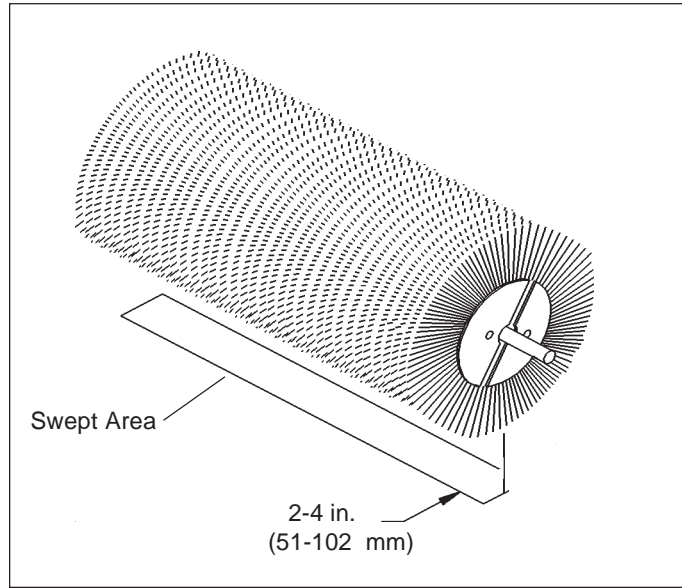

Figure 22
4. Raise the sweeper and back away; switch off the engine and remove the key. The brush pattern left in the dust should be 2-4 inches (51-102 mm) wide, running the length of the brush. (Compare the swept area with figure 22.)